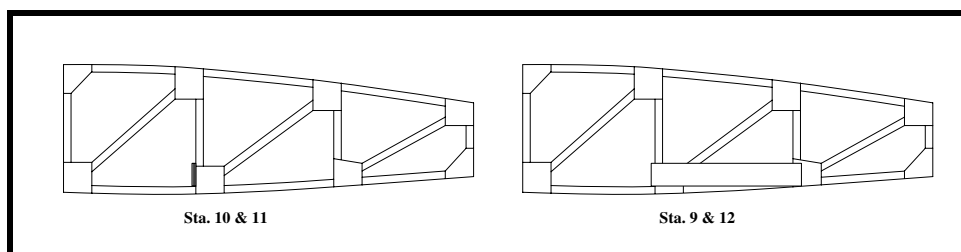

Figure 37
- ❑ Install the VHF NAV antenna in the right wing. See the instructions in Chapter 14 “Antenna Installation”. See Drawing No. 160 and 161. As shown in Figure 37, epoxy the antenna between two strips of spruce or plywood and glue the vertical braces of the Sta. 9, 10, 11 and 12 ribs. At each end, the antenna foil element is glued to the inboard face of the Sta. 9 and 12 ribs, again sandwiched between two plywood or spruce strips.